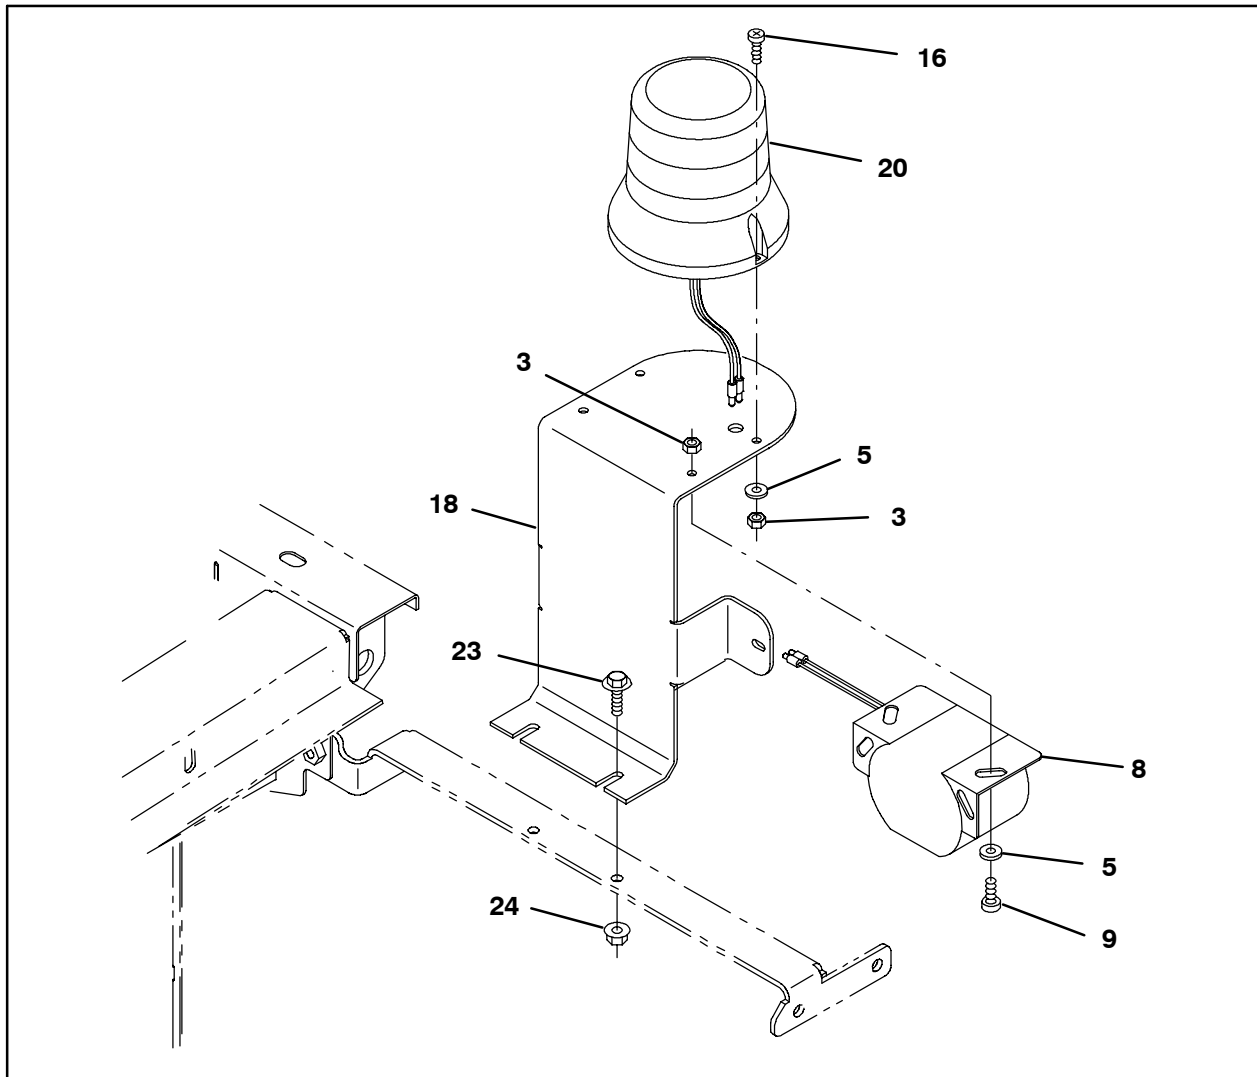

FIG. 1
1. **Machines without overhead guards:** Use two pan screws (16), two washers (5), and two hex nuts (3) to install the light (20) onto the backup alarm bracket (18). Refer to Fig. 1.
2. Use two pan screws (9), two flat washers (5), and two hex nuts (3) to install the backup alarm assembly (8) onto the backup alarm bracket (18). Refer to Fig. 1.
3. Use two SEMS hex screws (23) and two flange hex nuts (24) to install the backup alarm / flashing / strobe light assembly onto the machine. Refer to Fig. 1.